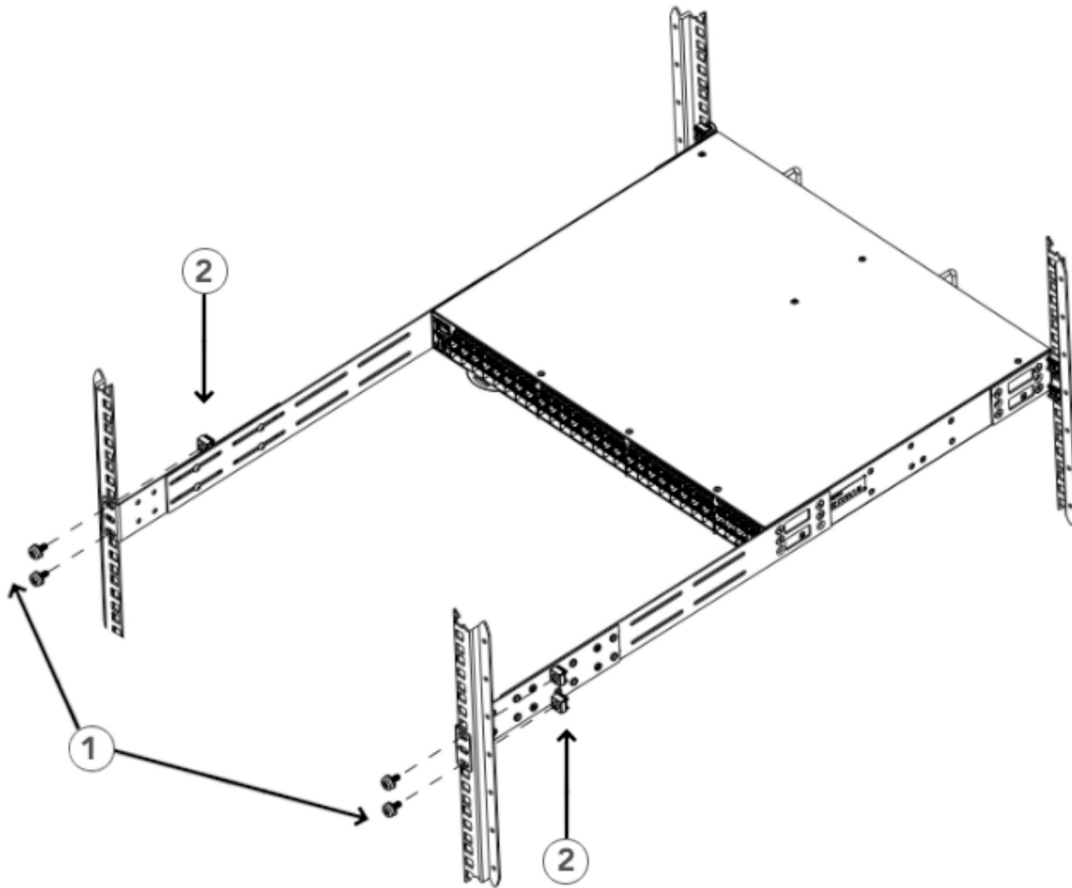

Figure 14. Attaching the Rear Brackets to the Front Rack Posts
1. Attach the right rear bracket to the right front rack post using two 10-32 x 5/8-in. screws and two retainer nuts, as shown Figure 14. Use the upper and lower holes in the bracket.